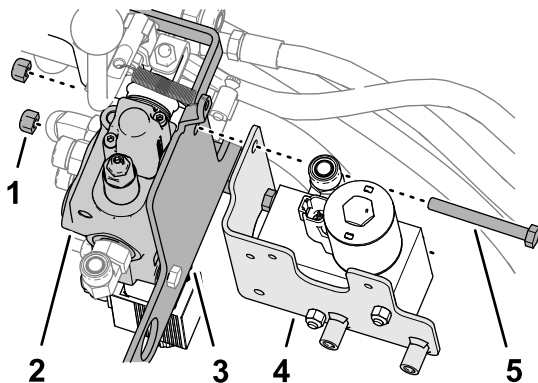

Figure 17
1. Remove the 2 rear bolts (5/16 x 2-3/4 inches) and 2 locknuts (5/16 inch) securing auxiliary valve to the valve bracket as shown in Figure 17.